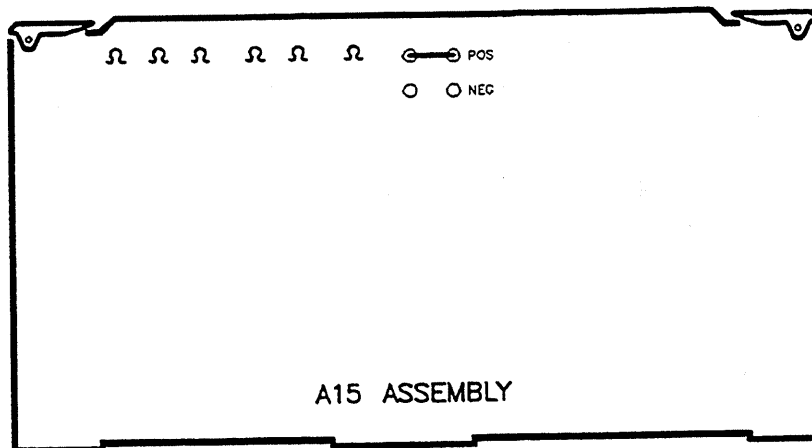

Figure 3-40. External Trigger Edge Selection Location
This procedure sets the external trigger to trigger on either the leading or the trailing edge of a TTL signal. When the jumper (shown in Figure 3-40) is in the POS position a sweep is triggered on the leading edge of the pulse (when the signal changes from 0 to 5 volts). When the jumper is in the NEG position a sweep is triggered on the trailing edge of the pulse (when the signal changes from 5 to 0 volts).
1. Turn the synthesizer power off and lift up the A15 assembly far enough to access the jumper shown in Figure 3-40. In some instruments the jumper positions will be rotated to the left 90°. In these instruments the jumper vertically connects the two left points in the POS position and the two right points in the NEG position. (POS and NEG positions are labelled on all assemblies.)